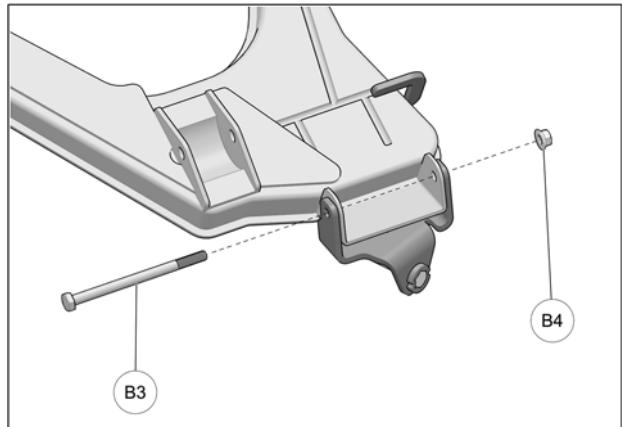

Fig. 8
8. Insert the new M10x150mm bolt (B3) through anchor bracket, suspension arm and wheel knuckle. Secure assembly with the provided M10 nut (B4). Torque nut to 50 N·m [37 lb·ft]. See Fig. 8